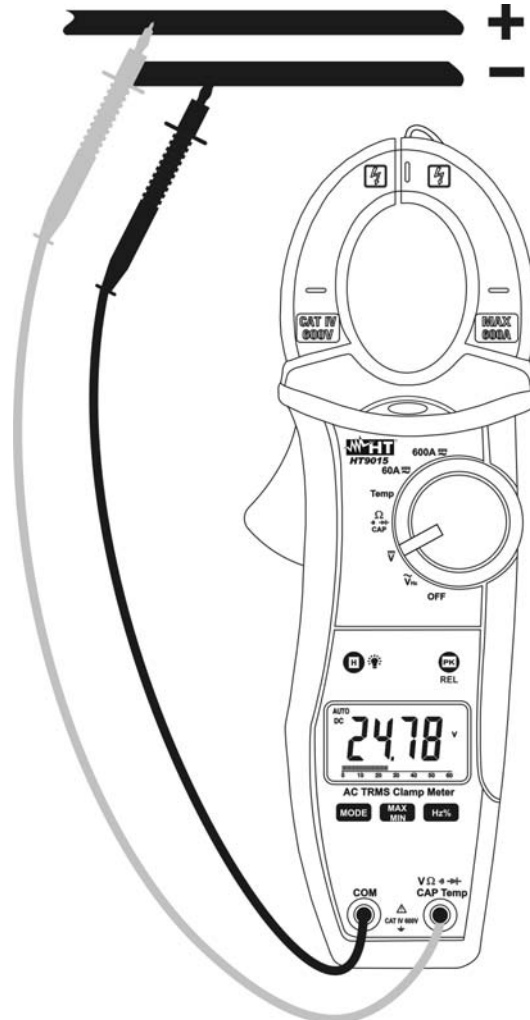

Fig. 4: Taking DC voltage measurements
2. Insert the red test lead plug into  $V\Omega\bar{V}$  jack and the black test lead plug into **COM** jack (Fig. 4)